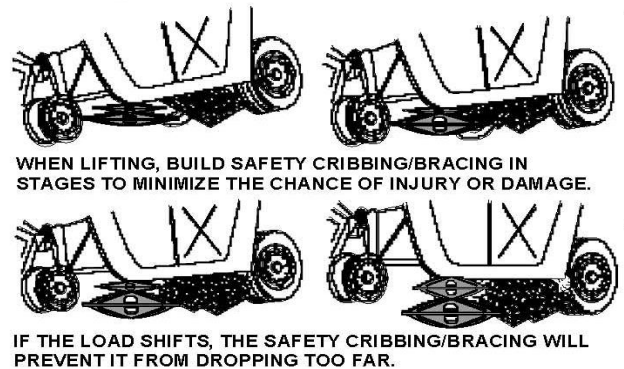

Figure 2-3. Correct Method of Safety Cribbing/Bracing
e. Build support cribbing/bracing height to a point that just allows the lift bag(s) to be inserted. Safety cribbing/bracing must be installed as the load is being lifted, remembering the generally applied rule to “lift an inch, crib an inch”. Care must be exercised to avoid injury and damage in the event of a drop and/or load shift (figure 2-3). The top support cribbing/bracing layer must be sufficiently solid to prevent a cribbing/bracing shift and collapse during inflation when the lift bag(s) take on the characteristic double dome shape. Build safety cribbing/bracing after the desired lift to minimize the